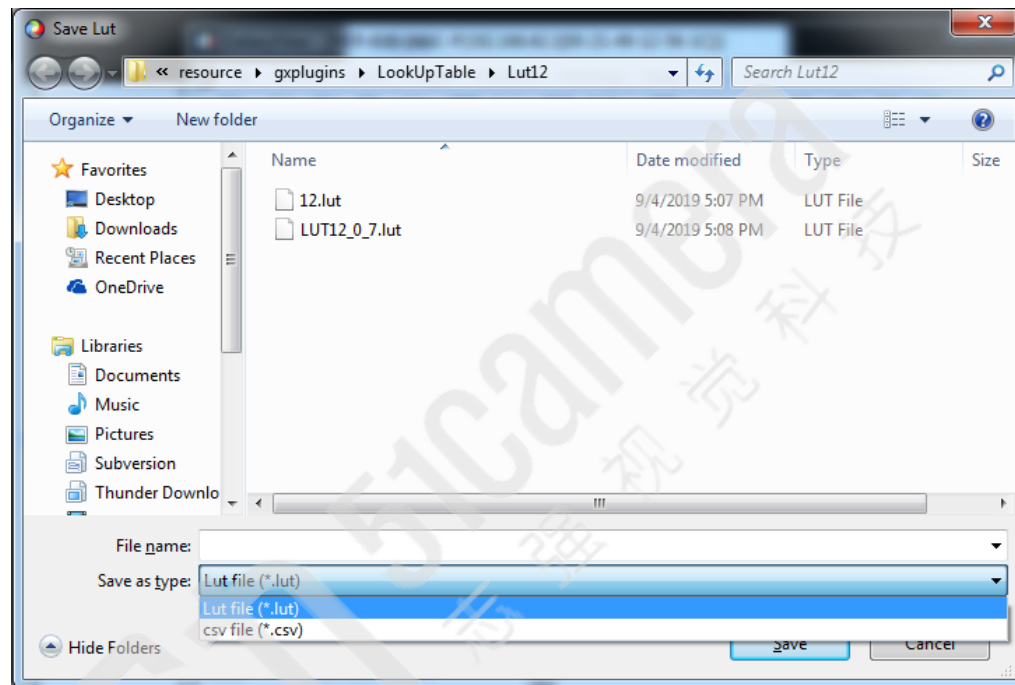

Figure 9-11 Save to file
1. When selecting "Save To File", the current Lut data can be saved to the file. The saved file contains two formats: Lut and csv, as shown in Figure 9-11.